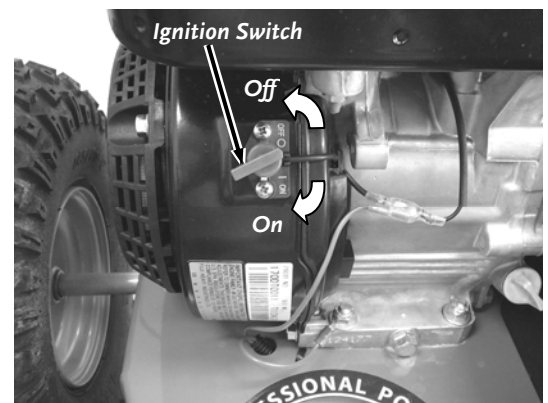
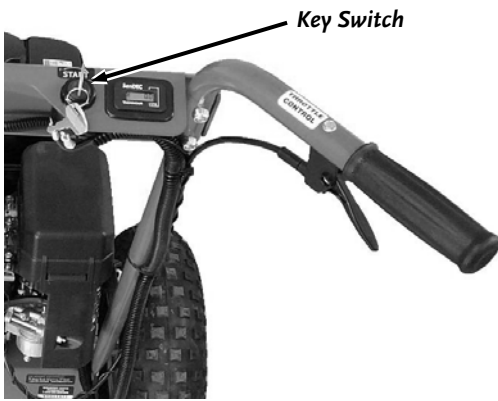

Figure 10
Figure 12
1. Turn the Ignition Switch to the “ON” position (**Figure 10**) (6HP only).
3. Hold down the Operator Presence Lever and turn the Key Switch fully to the “Start” position until the engine starts (**Figure 12**). The Key will move back a bit from the full Start position when released.
3. Turn the Ignition Switch to the “Off” position (**Figure 10** for 6HP Manual Start) and to the left (**Figure 12** for 9HP Electric Start).